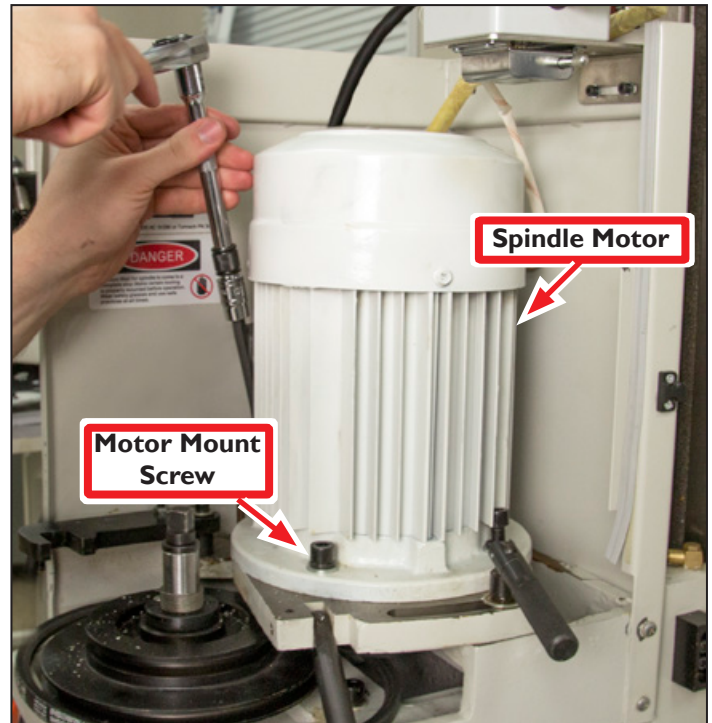

Figure 26
3. Rotate the Spindle Motor clockwise so that the Motor Junction Box faces the left side of the machine, as shown in **Figure 26**.
4. Secure the Spindle Motor with four Motor Mount Screws (see **Figure 26**).